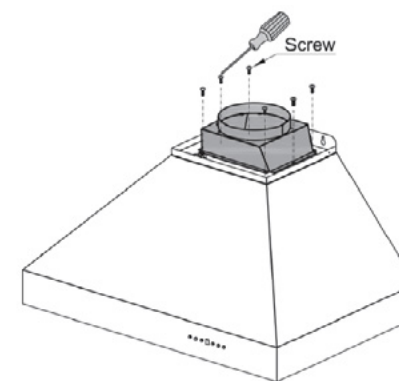

Figure 4
5. Install the transition piece securing it with the screws provided. *Figure 4*